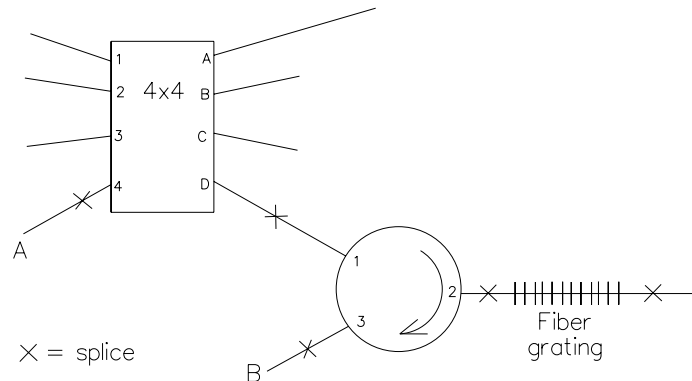
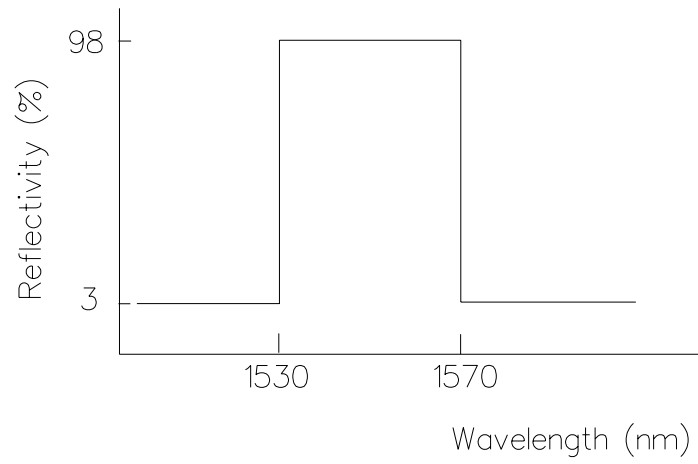

Figure 1: Component connection for Problem 3.
Figure 2: Reflectivity vs. wavelength for fiber grating of Problem 3.(idealized).
3. A 3x3 coupler, an optical circulator, and a Bragg grating are interconnected as shown in Fig. 1. The components are all made of 50/125 fiber. The loss matrices for the coupler and circulator are given in Tables 1 and 2. The (idealized) reflectivity of the grating is plotted vs. wavelength in Fig. 2. The losses of each splice is 0.2 dB; all fiber losses are negligible.
If we have  $600\text{ }\mu\text{W}$  of power at 1550 nm in the fiber at point “A”, calculate the power at point “B” in Fig. 1 in dBm *and*  $\mu\text{W}$ . (Note: You *must* use the “dB method”.)